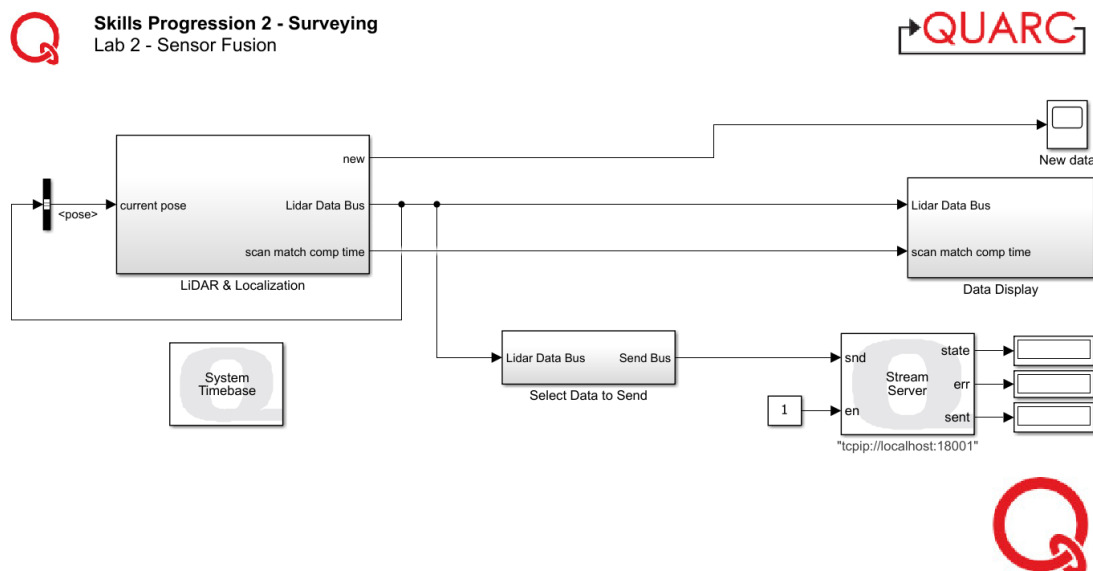
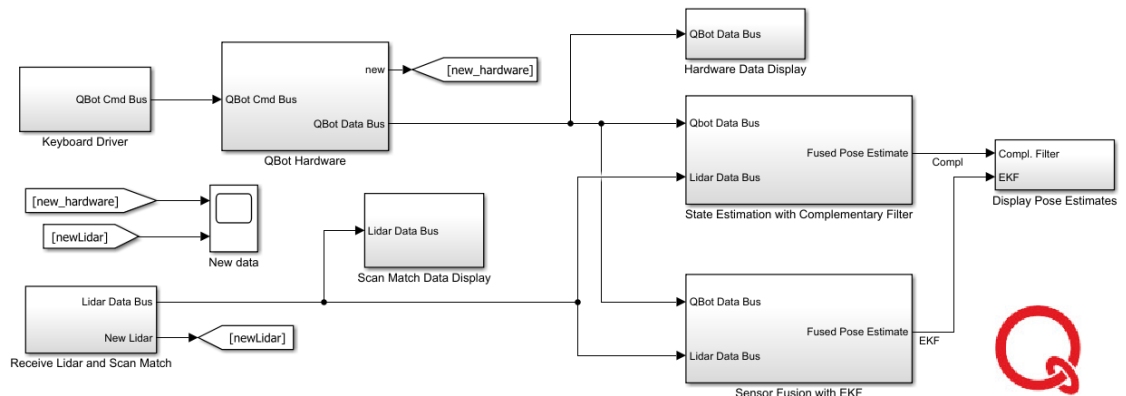

Figure 2: Simulink model in scan_match.slx
Figure 3: Simulink model in sensor_fusion.slx
1. In this lab you will explore sensor fusion techniques to localize the QBot Platform. You should have 2 separate MATLAB instances open: one to run scan_match.slx and another to run sensor_fusion.slx. The model scan_match.slx (Figure 2) estimates the position from LiDAR data using Scan Match and streams the estimates to the other model sensor_fusion.slx (Figure 3). The model sensor_fusion.slx will include your code to fuse the data from other sensors on the QBot and the received estimates from scan_match.slx.